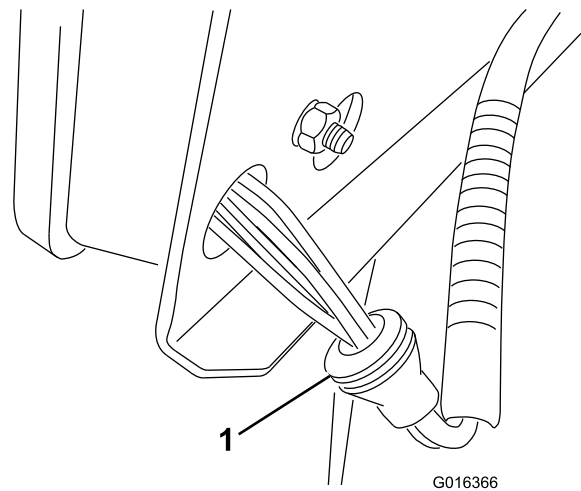

Figure 17
3. Pass the connectors through the light grommets individually and press each grommet into place (Figure 17).